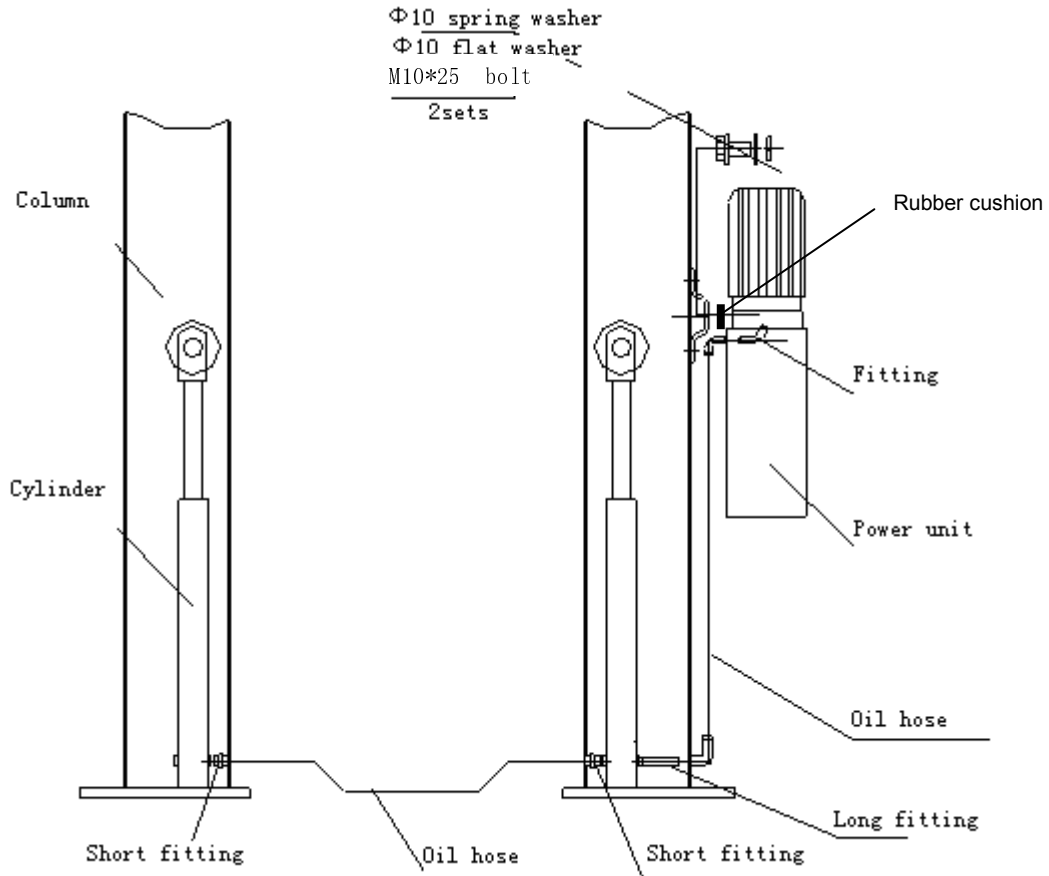

Fig. 14
- Use two M10 bolts and washers to fix the power unit (as shown in Fig.14). for Hollstein 9000 models, install the hydraulic line as shown in Fig. 14 and tighten all the fittings to prevent oil leakage.